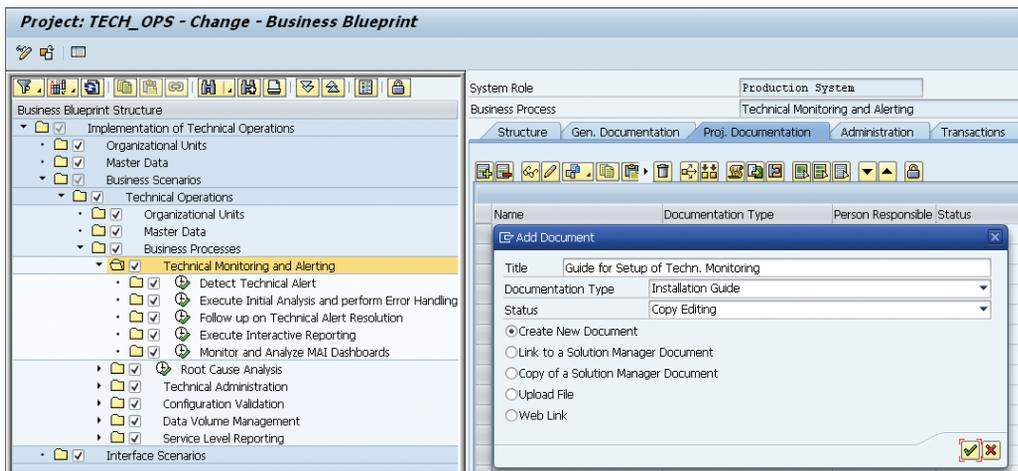

Figure 3.13 Adding a Document
To complete the existing documentation with new documents, first select a desired hierarchy level to which you want to assign the document. Then, go to the PROJ. DOCUMENTATION tab (see Figure 3.13).
2. As shown in Figure 3.13, define the TITLE and the DOCUMENTATION TYPE in the dialog that opens.